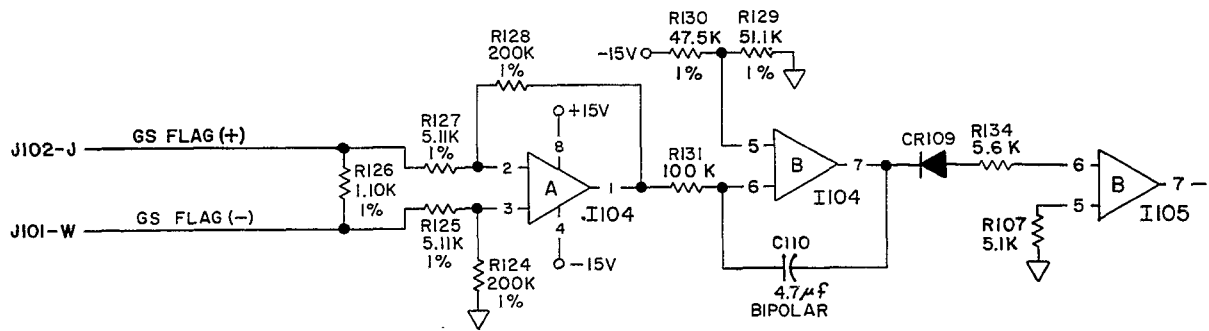

FIGURE 4-6 GLIDESLOPE RETRACT CIRCUITRY
4.3.2 GS RETRACT CIRCUIT (Figure 4-6)